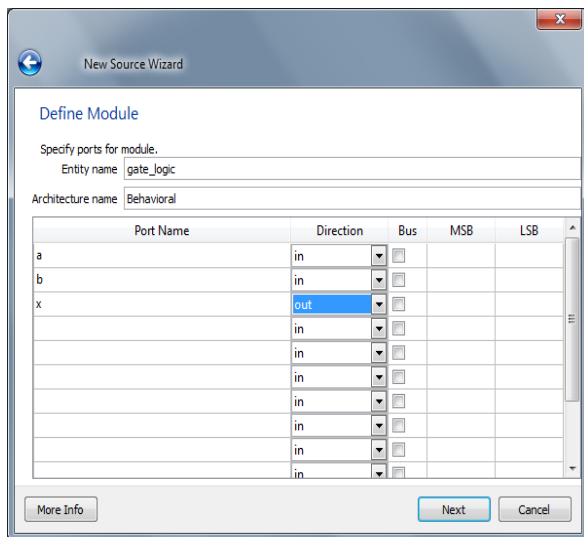
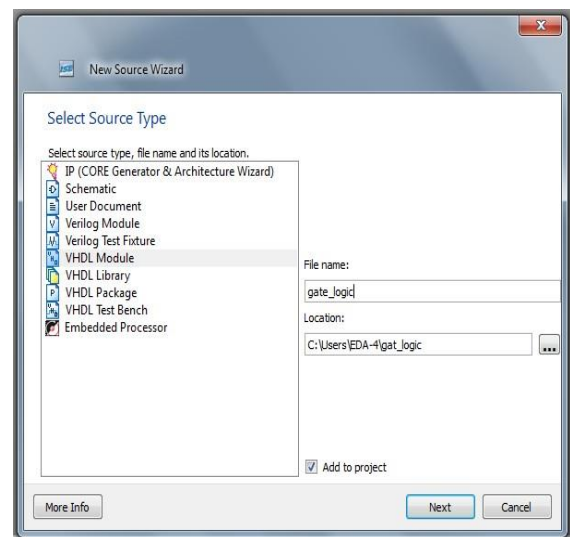

Figure 6: New Source Wizard- Source Type
Figure 7: New Source Wizard- Specify ports
- viii. **Creating a New VHDL module Source file; Go to Project and click on New Source, select VHDL Module and Enter the name “and_gate” as shown in figure 6 and click next you will get a window as shown in figure 7.**
- ix. Enter the ports for your module (**figure 7**). This is strictly optional and saves you the typing of creating the VHDL entity manually. Whether you fill this out or not, the resultant text file will be totally under your control for later editing.